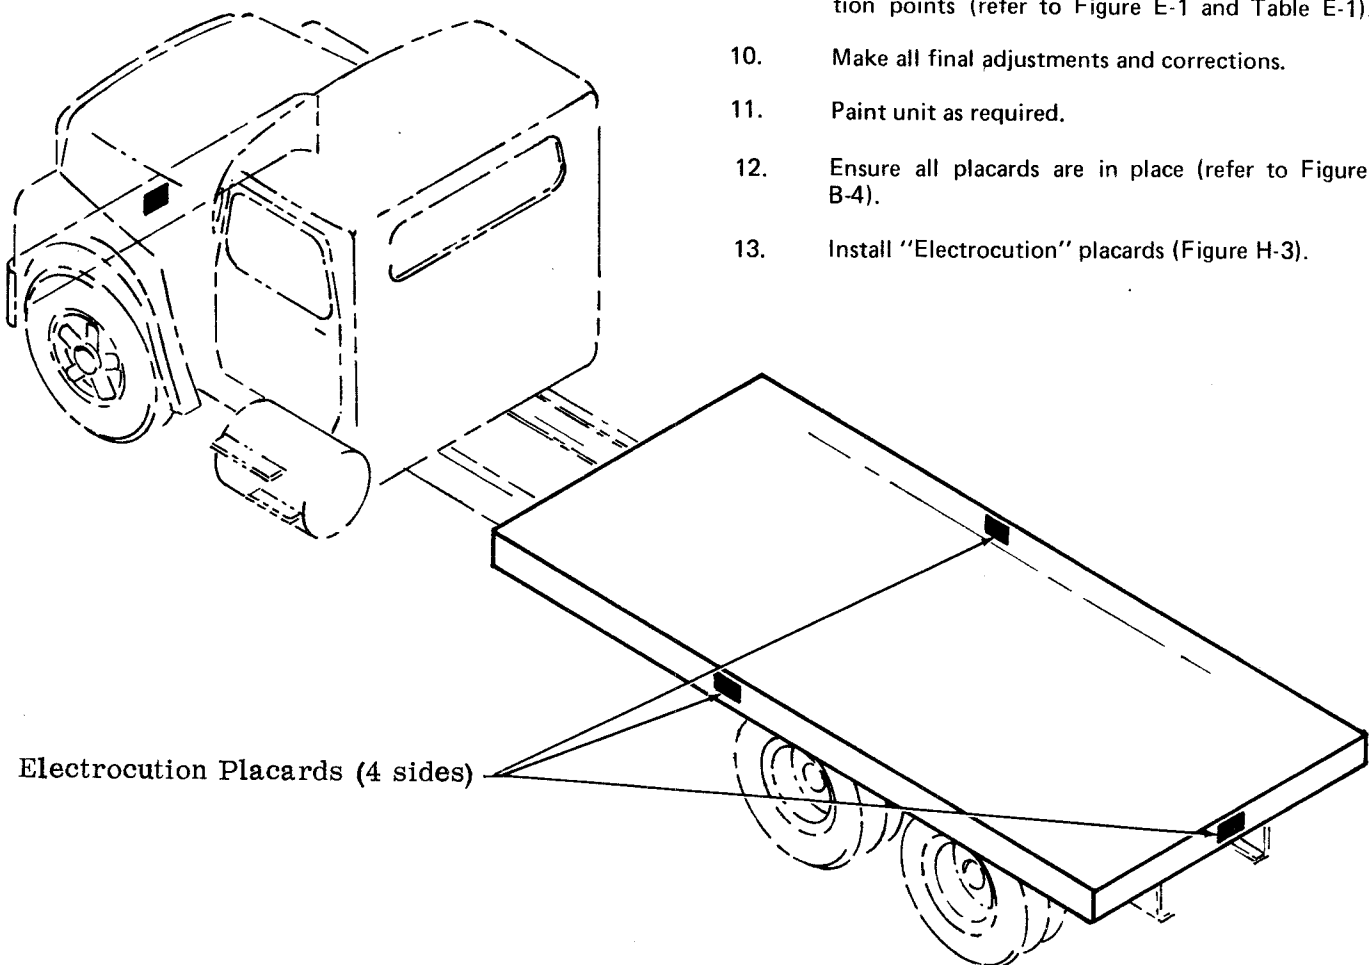

Figure H-3. Electrocution Placard Placement
13. Install "Electrocution" placards (Figure H-3).